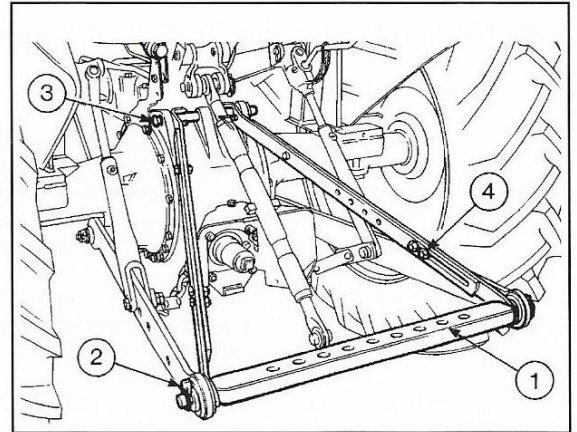

Fig. 57
A fixed or swing drawbar should be used at all times in preference to the multi-hole drawbar and stays (Fig. 57).
2. Remove the clevis and reposition in one of the positions shown (Fig. 57) the dimensions from the centre of the PTO shaft are given (see Table 3). Tighten the bolts to a torque of 230 Nm (170 lbf ft).